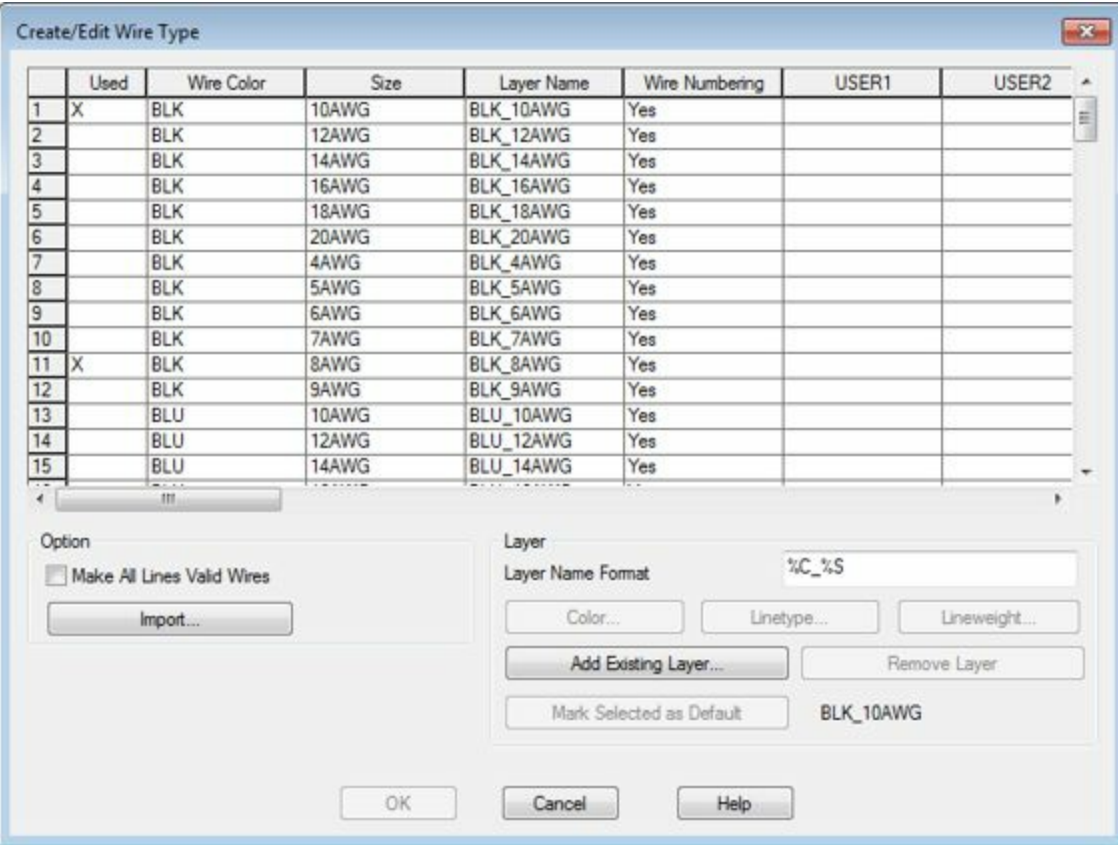

Figure-69. Create or Edit Wire Type dialog box
- Click on the **Create/Edit Wire Type** tool from the **Wire Type Editing** drop-down. The **Create/Edit Wire Type** dialog box will be displayed as shown in Figure-69.